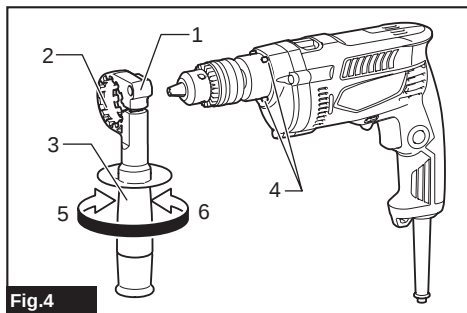

Fig.4
- Fig. 4: 1. Grip base 2. Teeth 3. Side grip (auxiliary handle) 4. Protrusion 5. Loosen 6. Tighten